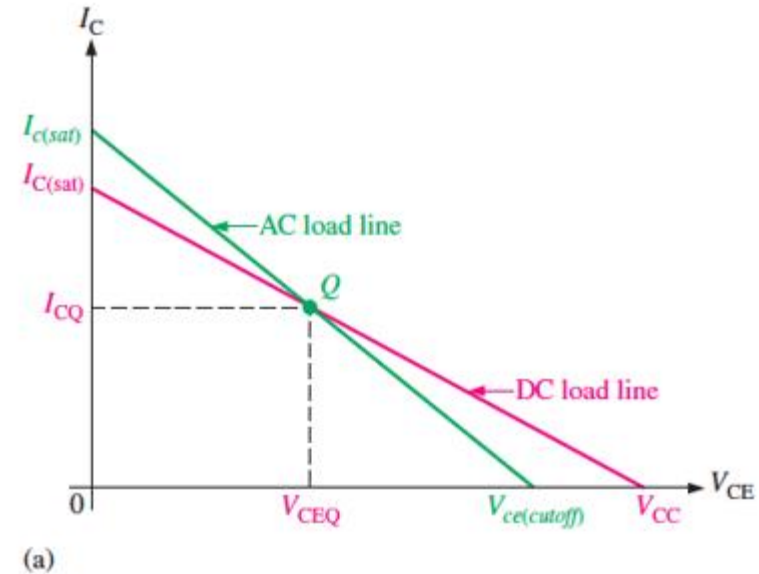

Figure 4
- You can see this concept by examining the graph of the load line for a given amplifier in Figure 4. This graph shows the ac load line with the Q-point at its center.